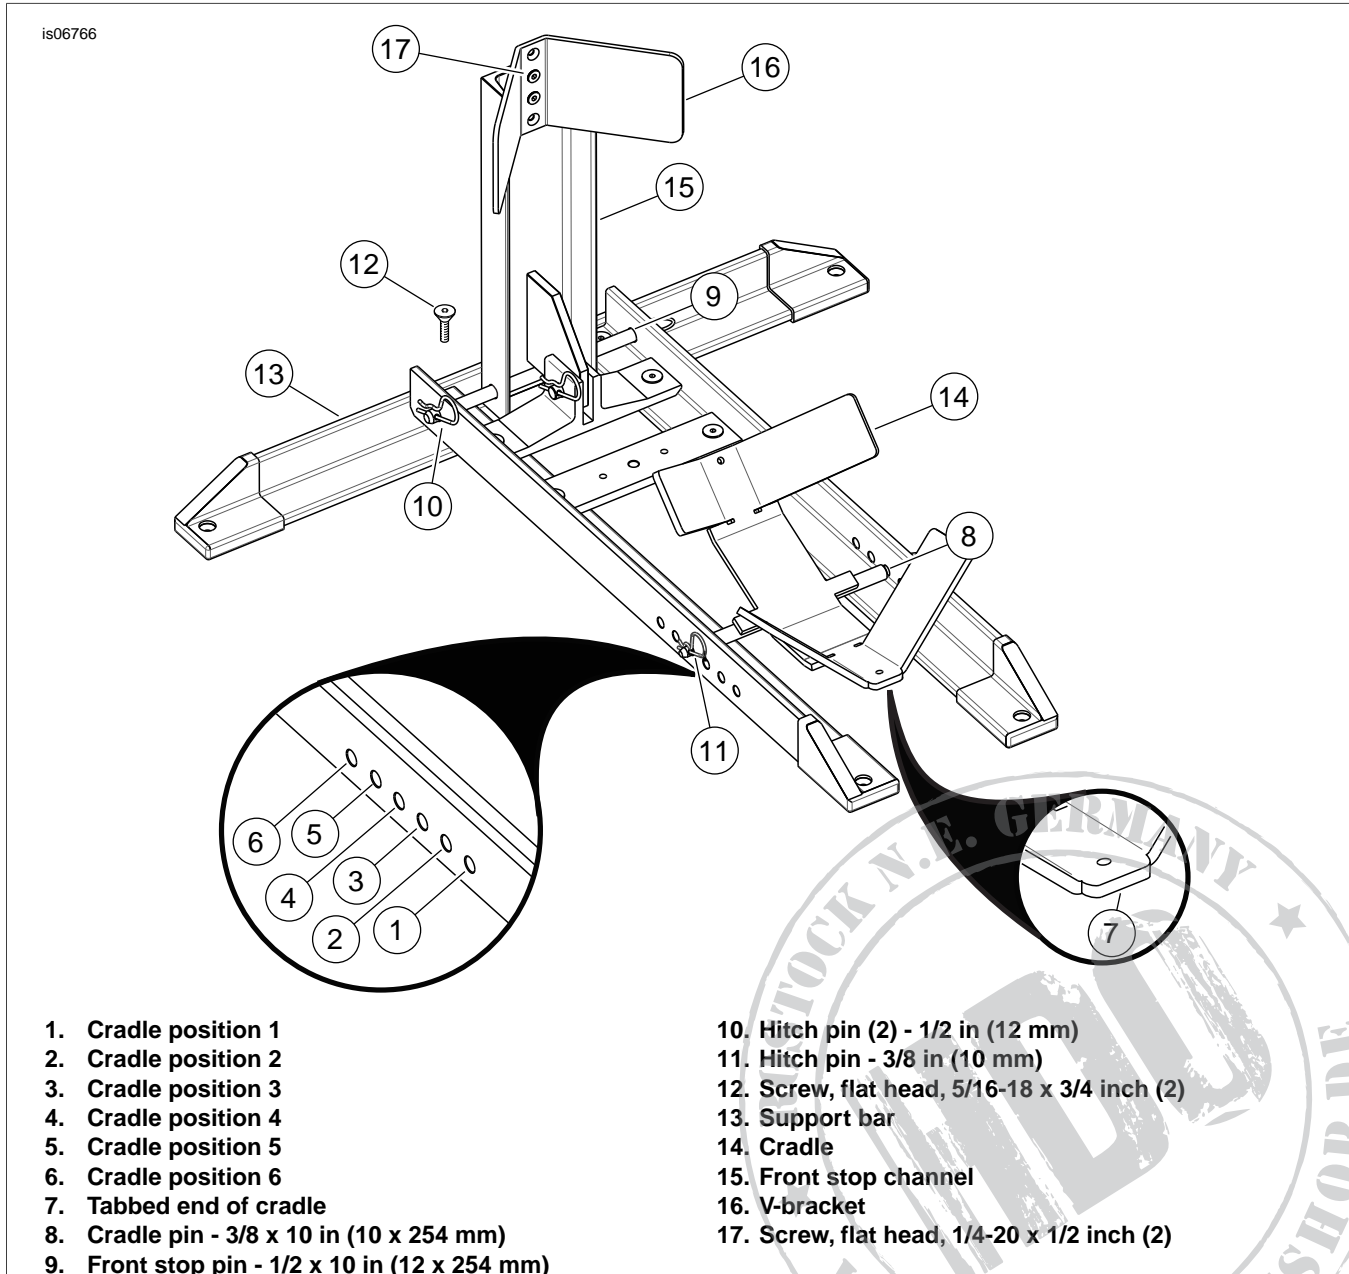

Figure 1. Harley-Davidson Wheel Chock
3. See Figure 1. Remove hitch pin (10) and front stop pin (9).
4. Install the wheel chock base and two screws (12) to support bar (13). Tighten screws to 16-18 ft-lbs (21.7-24.4 Nm).
5. Raise the front stop channel (15) along with the loose cradle (14) to the upright position.
6. While holding the front stop in the upright position, remove the cradle from the front stop channel V-bracket (16).
7. Secure the front stop channel in the upright position with the front stop pin (9). Secure the pin with the previously removed hitch pin (10).
8. Refer to Table 1 and Figure 1. Install the cradle (14) and cradle pivot pin (8) to the wheel chock holes indicated in the table. Orient the cradle (14) so that the tabbed end of the cradle (7) is positioned away from the front stop channel (15), as shown. Secure the cradle pivot pin with the hitch pin (11).
9. If necessary, adjust the height of the V-bracket (16) to the position closest to the wheel axle height as follows:
- a. Remove two screws (17).
- c. Install two screws (17) and tighten to 8-9 ft-lbs (10.8-12.2 Nm).
1. See Figure 1. Remove hitch pin (11) and cradle pivot pin (8).
2. Move cradle (14) to new position.
3. Install cradle pivot pin (8) and hitch pin (11).